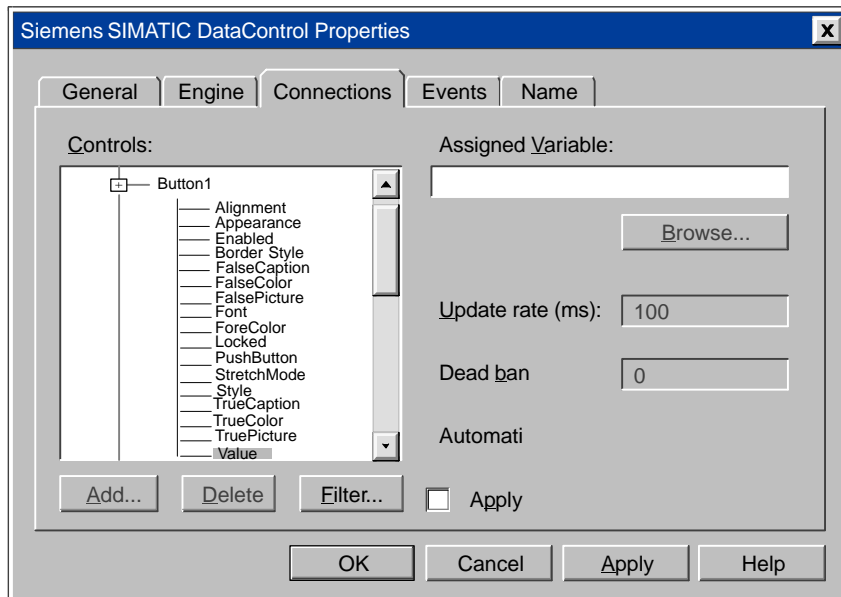

Figure 1-5 Displaying the Expanded List of Properties
3. As shown in Figure 1-5, select the control and click on its plus (+) symbol to expand its properties list.